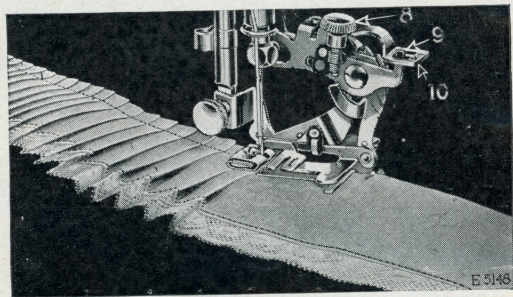
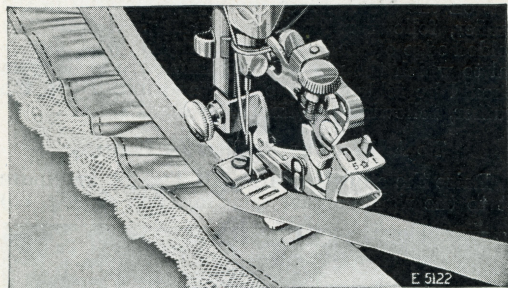
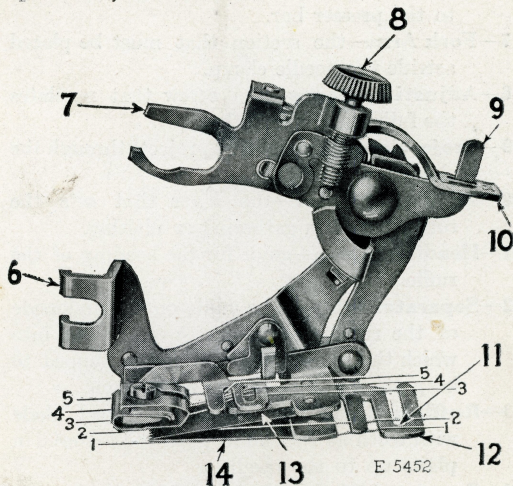

Fig. 38
FIG. 36
FIG. 33. THE RUFFLER AND ITS PARTS
The material for piping must measure about $\frac{1}{4}$ inch wide when folded in the centre and is usually cut on the bias. Place the piping material in the ruffler, following the line 4, in Fig. 33, with the folded edge of the piping to the right. The material to which the piping and ruffling are to be sewn should be folded on the edge and inserted in the ruffler, following the line 5, in Fig. 33.
Raise the adjusting lever (10, Fig. 38) and move it to the right so that the projection (9, Fig. 38)
will enter the slot marked "5" in the adjusting lever when the lever is released. The ruffling blade will then move forward and back once at every five stitches. Insert the material to be plaited between the two blue blades, following the line 2, in Fig. 33. The fullness of the plaits is regulated by the adjusting screw (8, Fig. 38) and the length of stitch. To make a fuller plait, turn the adjusting screw (8) down, also lengthen the stitch. To make a finer plait, turn the adjusting screw (8) up, also shorten the stitch.
Insert the material to be ruffled between the two blue blades, following the line 2, in Fig. 33. This
2, in Fig. 33. Place the garment to which the ruffle is to be attached, under the separator blade, following the line 1, in Fig. 33. Proceed the same as for plain gathering.
Insert the material to be ruffled between the two blue blades, following the line 2, in Fig. 33. Place the garment to which the ruffle is to be attached, under the separator blade, following the line 1, in Fig. 33. Place the material for the facing over the upper blue blade, as shown in Fig. 36, following the line 3, in Fig. 33. The facing may be straight or bias material. If the facing is to be on the right side of the garment, place the garment and
enter the slot marked "1" in the adjusting lever (10) when the lever is released. The ruffling blade will then move forward and back once at every stitch. Insert the material to be ruffled between the two blue blades, following the line 2 in Fig. 33. Draw the material slightly back of the needle, lower the presser bar and commence to sew.
(See Nos. in Fig. 33)
Lines 1, 2, 3, 4 and 5 shown in Fig. 33 indicate where the material is to be placed for various operations, as follows:
Refer to Fig. 33 when inserting the material in the ruffler.